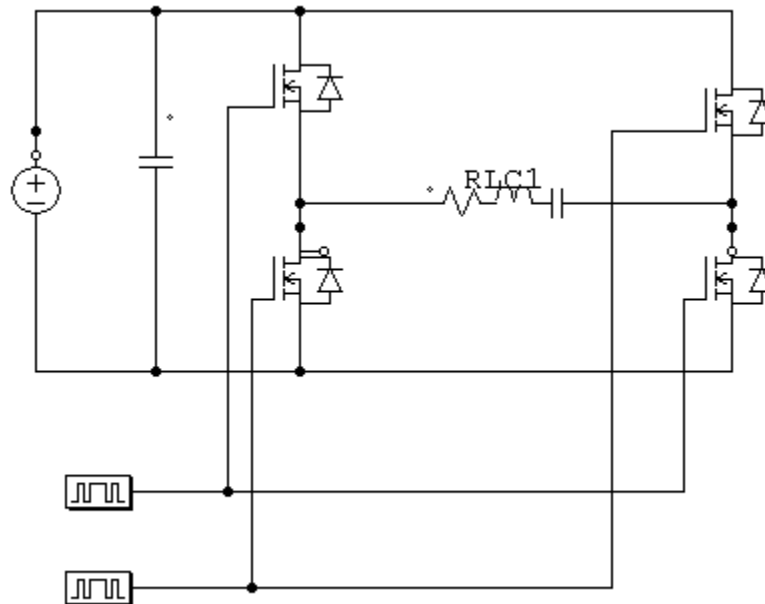

Figure 5: Inverter full bridge
5. The full bridge inverter in Figure 5 has an RLC load with $R=5\Omega$, $L=10\text{mH}$ and $C=20\mu\text{F}$. The inverter frequency $f_o=400\text{ Hz}$ and the dc input voltage $V_s=220\text{V}$